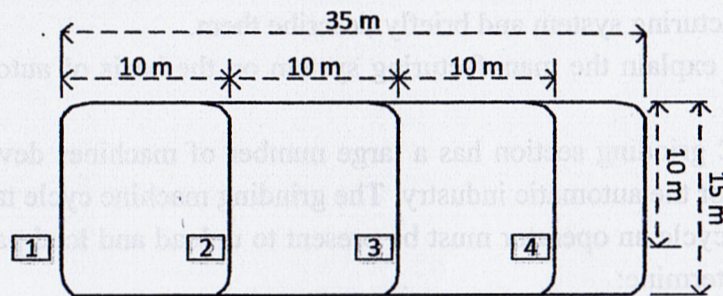

Figure 3(c)
3. (c) A flexible manufacturing system (FMS) is being planned. It has a ladder layout as shown in Figure 3(c). It uses a rail guided vehicle (RGV) system to move parts between stations in the layout. All work parts are loaded into the system at station-1, moved to one of the three processing stations (2, 3, or 4) and then brought back to station-1 for unloading. Once loaded onto its RGV, each work part stays onboard the vehicle throughout its time in the FMS. Load and Unload times at station-1 are each 1.0 min. Processing times are: 5.0 min at station-2, 7.0 min at station-3, and 9.0 min at station-4. Hourly production of parts through the system is: 7 parts through station-2, 6 parts through station-3, and 5 parts through station-4.